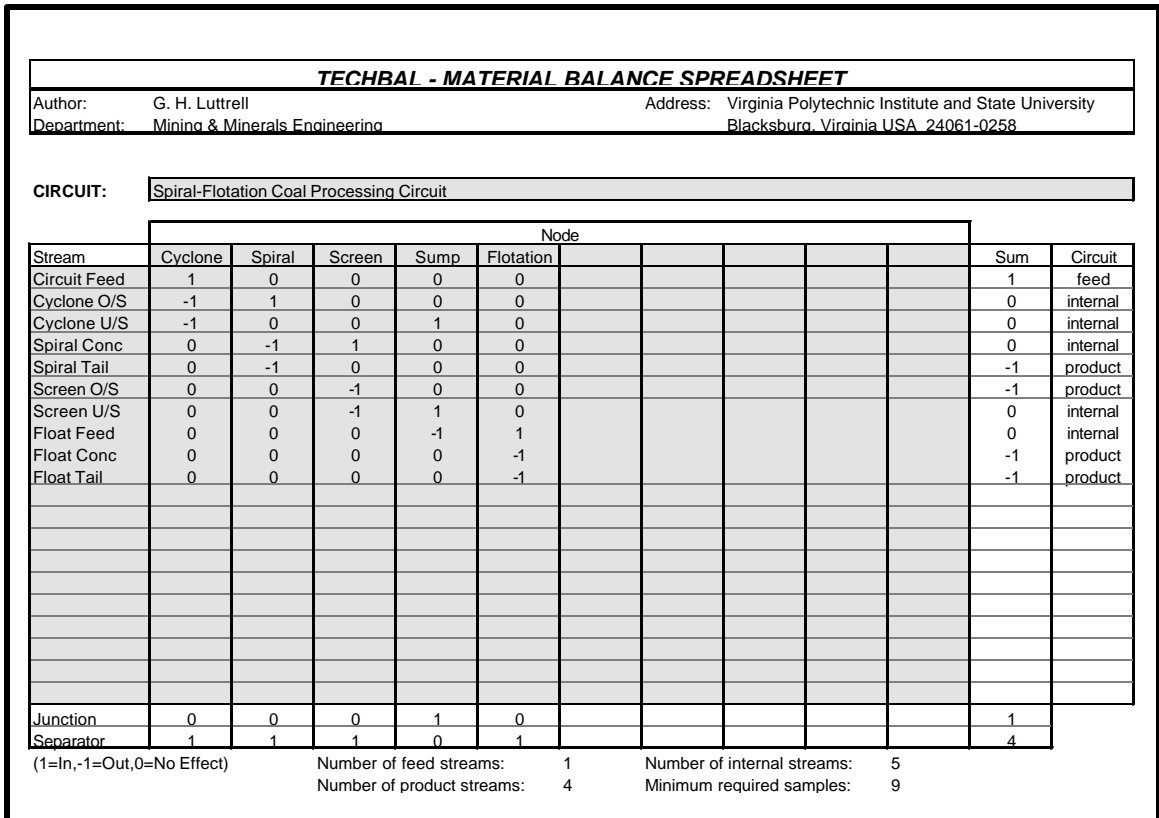

Figure 2. Completed MATRIX page describing the plant flowsheet.
Select the **MATRIX** page of the spreadsheet by clicking on the appropriate tab at the bottom of the page. Enter a description of your circuit (Row 6), the names of the unit operations (Row 9), and the names of all streams that connect the operations (Column A). Within the matrix defined by the nodes and streams, enter a -1 or +1 to indicate whether each stream exits or enters each unit operation (node). The value zero (0) should be entered if the stream does not connect to this node. A completed copy of the **MATRIX** page for this example is shown in Figure 2.